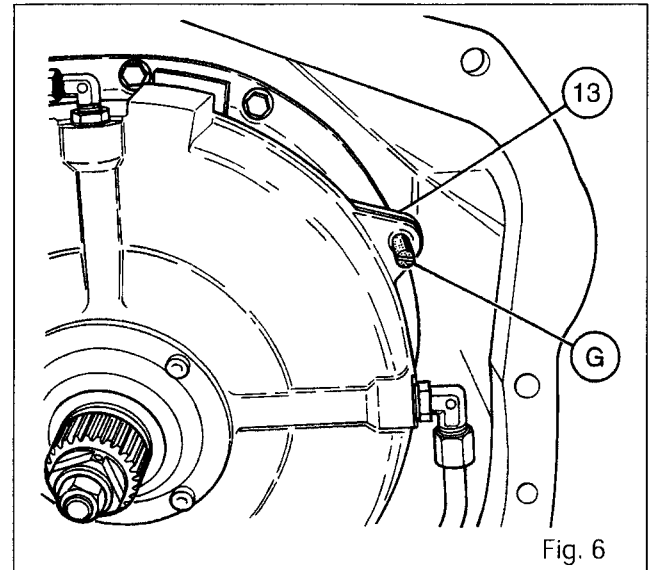

Fig. 6
15. Screw three "G" guide studs on the cover **(13)** (Fig.6).